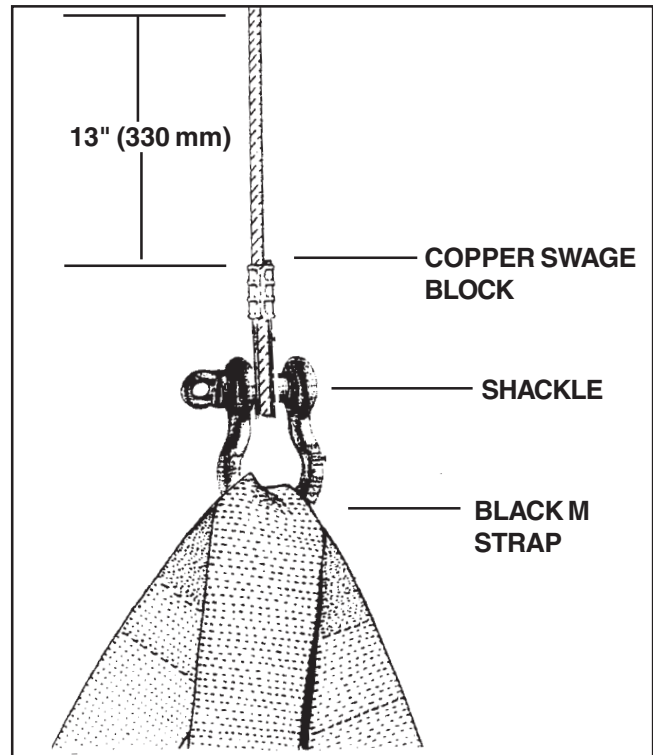

Fig. 4: Cut 13' (330 mm) off the suspension cables.
3) Cut the suspension cables one at a time (to avoid mixing them up) just above the swage where the thimble attaches to the M-straps. Cut off 13" (330 mm) as shown in Fig. 4.